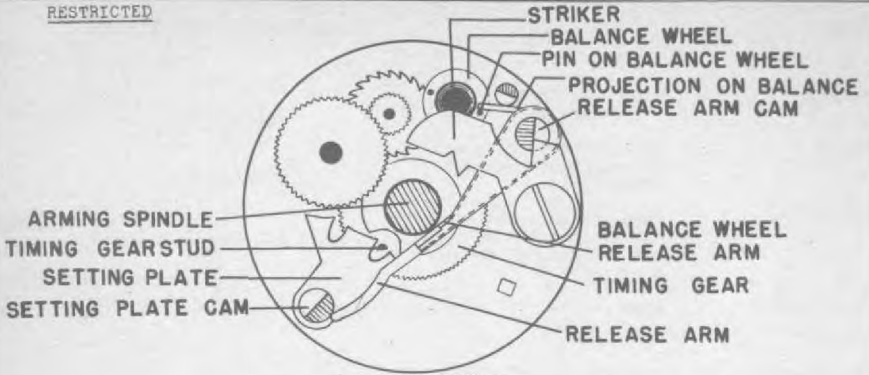
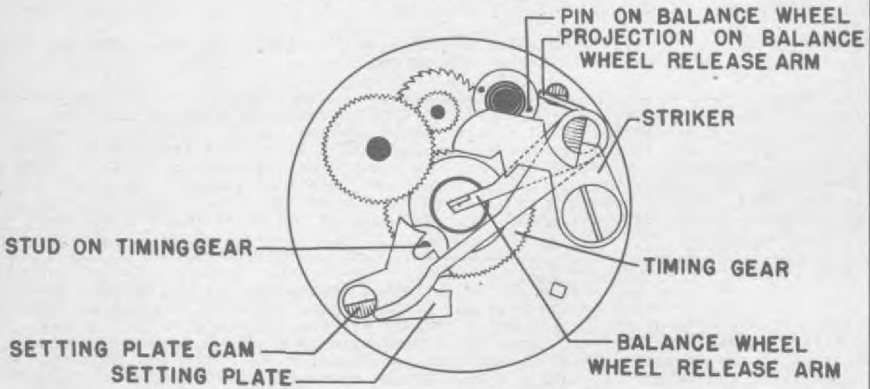
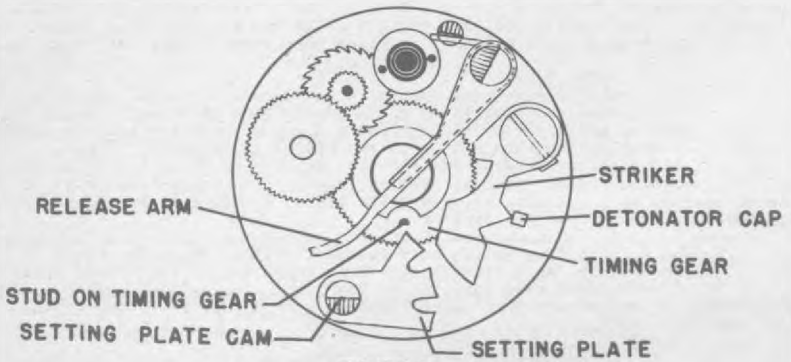

FIGURE 9
FIGURE 10
FIGURE 11
**OPERATION:** The clockwork mechanism in the unarmed position is seen in Fig. 9. When the arming spindle has been withdrawn approximately .25 inch, the balance wheel release arm, pivoted on the release arm cam, moves a limited distance until it is centered over the hole previously occupied by the arming spindle, Fig. 10. This action prevents the reinsertion of the arming spindle and starts the mechanism in operation as the projection on the balance wheel release arm frees the balance wheel. With a maximum setting time of 30 minutes, the functioning is as follows:
(1) The timing gear, under the influence of its clock spring, rotates in a counter-clockwise direction. Near the end of its first revolution, the stud on the timing gear engages the first slot of the setting plate and pulls the latter around with it a limited distance in a clockwise direction.
(2) Near the end of the timing gear's second revolution, the stud engages the second slot in the setting plate, once again moving it a limited distance.
(3) Near the end of the third revolution, the stud on the timing gear engages the heel of the setting plate to move the latter clear of the timing gear. With the setting plate in this position, the setting plate cam presents its cutaway section to the release arm, thereby freeing the release arm. The release arm is forced past the setting plate by the spring-loaded striker bearing against the release arm cam. As the pivoted striker clears the release arm cam it is free to strike in a counter-clockwise direction and fire the detonator, Fig. 11.
**REMARKS:** Each complete rotation of the timing gear takes approximately 9 to 10 minutes and with the maximum setting of the setting plate a delay of 27 to 30 minutes will result. By varying the initial position of the setting plate and/or timing gear at the factory, the fuze can be set to function for any desired time up to 30 minutes. This fuze is a copy of the German (87) Butterfly fuze.